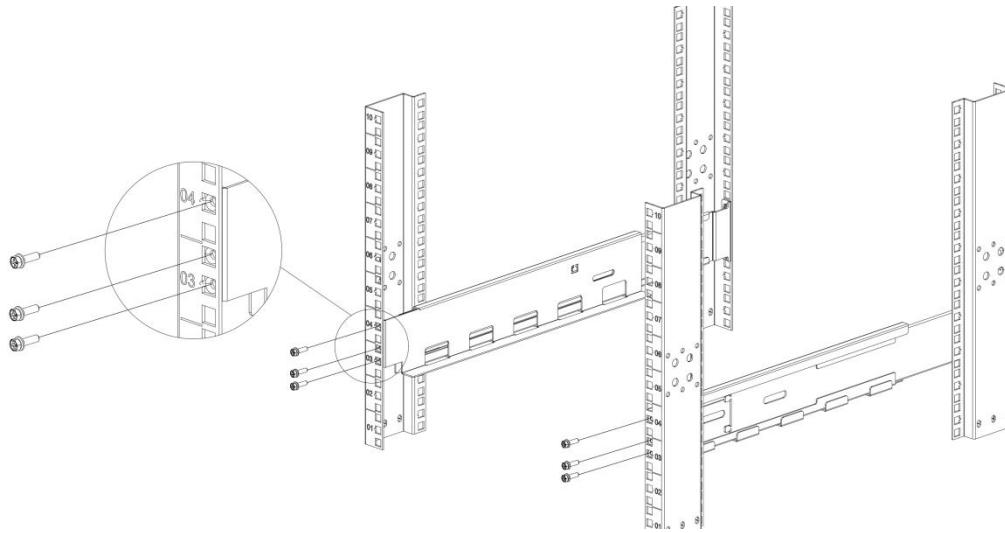

Figure 1: Install the Front Side of Rails
2. Install the front side of the rail kit with 3x Phillips Pan Head M5 screws (see Figure 1) on each rail. Do not tighten the screws.